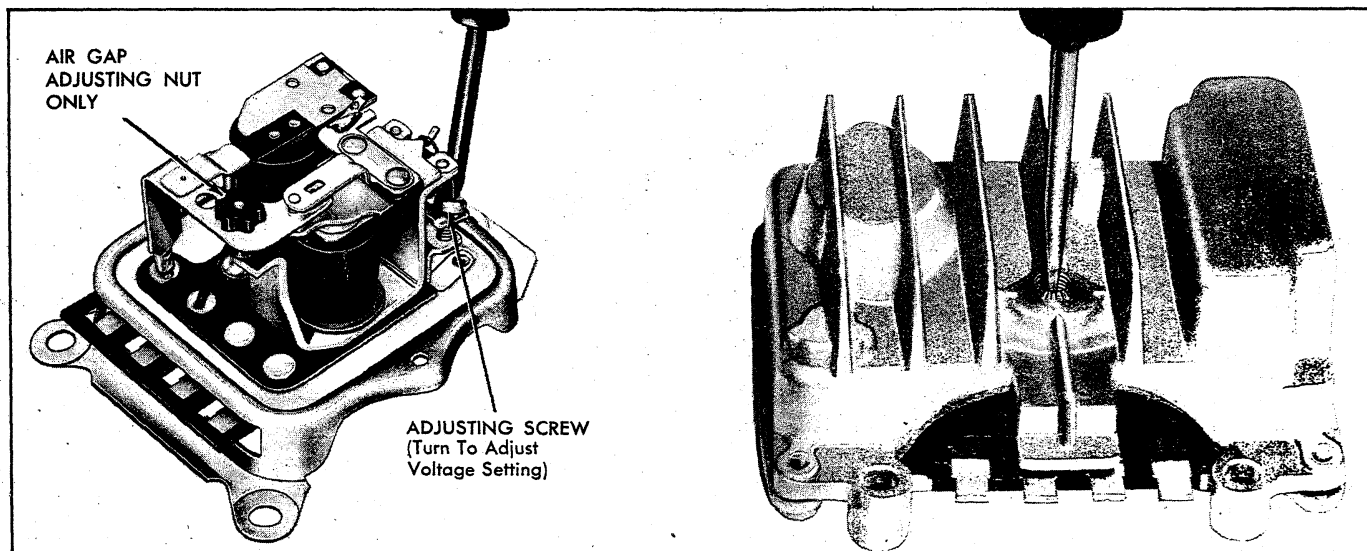

Fig. 6c—Adjusting Voltage Setting
(1) Delcotron tests bad—refer to "Service Operations" and repair Delcotron, then repeat Step 6.
(2) Delcotron tests good—disconnect regulator connector, remove regulator cover and reconnect the connector. Then repeat Step 6 and turn voltage adjusting screw (fig. 6c) to raise setting to 12-1/2 volts. On transistor regulator remove pipe plug (fig. 6c), insert screw driver into slot and turn clockwise one or two notches to increase setting. Turning counter-clockwise decreases setting. For each notch moved, the voltage setting will change approximately .3 volt. Turn off loads, stop engine and proceed to Step 7. If 12-1/2 volts cannot be obtained, install a new regulator and repeat Step 6.
a. Disconnect four terminal connector and remove regulator cover. Then re-connect four terminal connector and adjust voltage to 14.2 to 14.6. (Refer to Step 6 and fig. 6c).